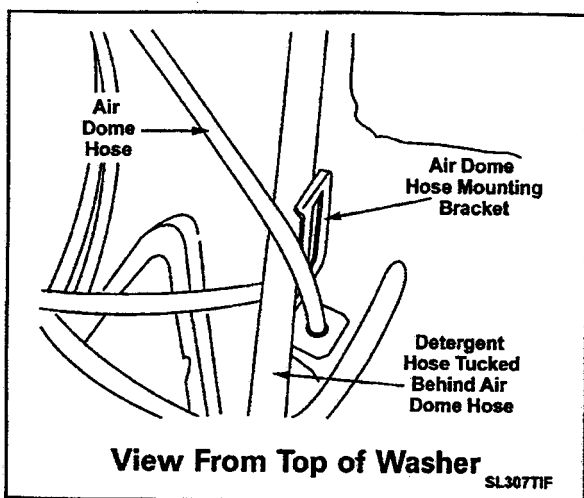

Figure 2-30
4. Follow the detergent hose vertically up to the air dome hose mounting bracket. The detergent hose is tucked behind the air dome hose (Figure 2-30).